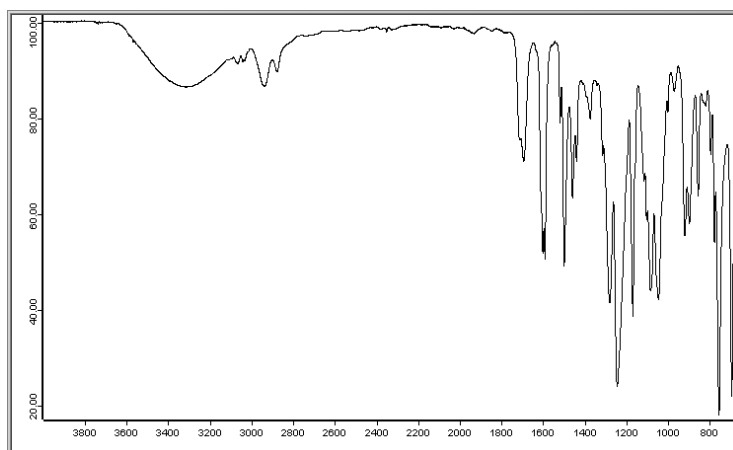

Figure 43: Spectrum after an atmospheric compensation
- 3 Thereupon, OPUS performs an atmospheric compensation and displays automatically the atmospherically compensated spectrum in the OPUS spectrum window (see figure 43).